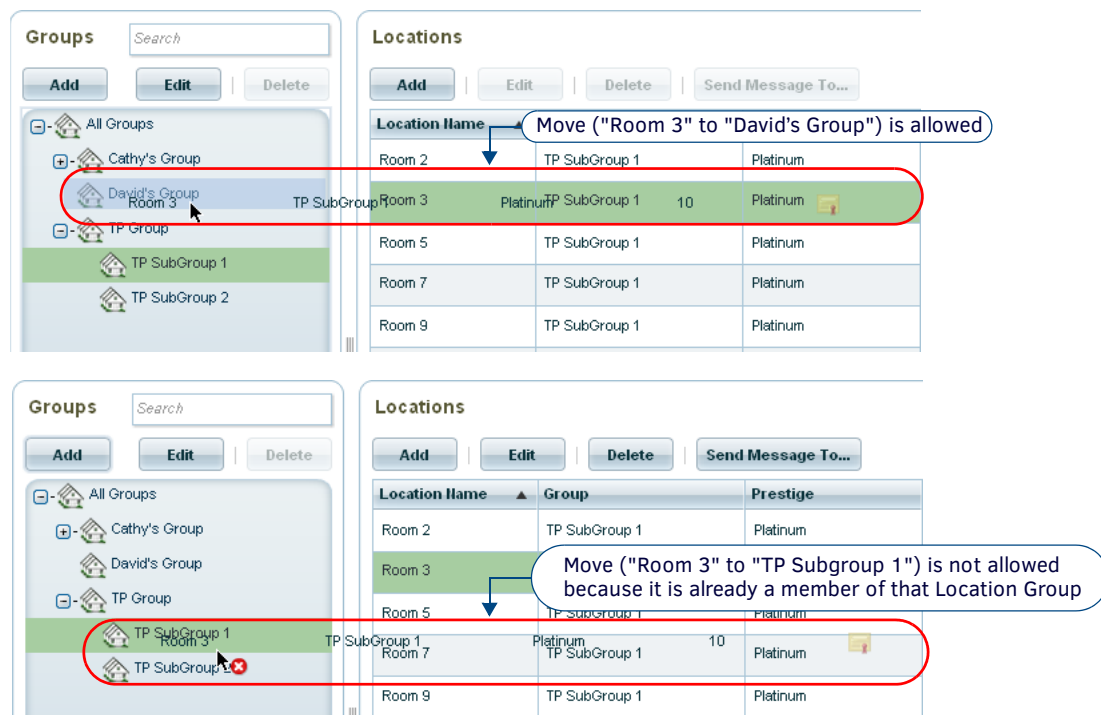

FIG. 193 Moving Locations via Drag-and-Drop
Locations can be relocated to a different Location Group by dragging the target Location from the Locations window and dropping it on top of the new parent Group, in the *Locations Group* window (FIG. 193).
- A small red "X" icon indicates when the drop target is not eligible (see FIG. 193).